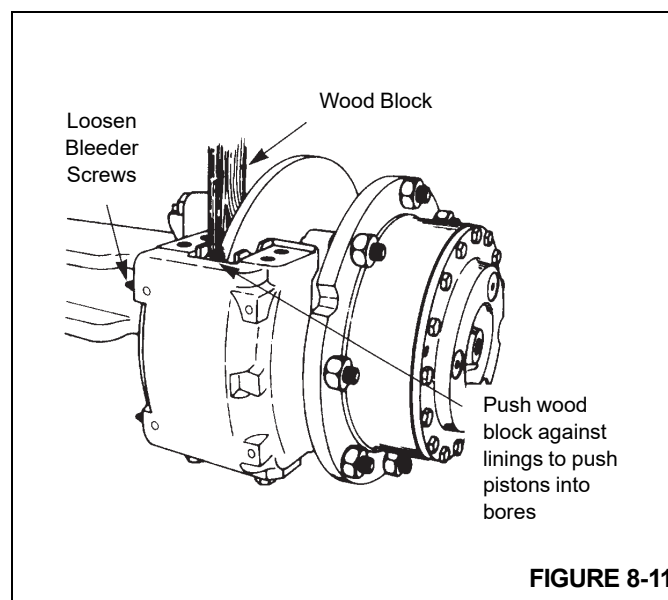

FIGURE 8-11
4. Use a piece of wood against the linings as a pry bar to push the pistons completely into the housing. Tighten the bleeder screws Figure 8-11. Torque the bleeder screw 11.3 N-m to 13.6 N-m (100 lb-in to 120 lb-in).